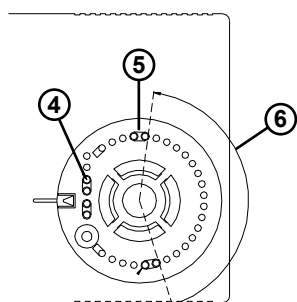

Fig. 6
First, remove the dial by inserting a small screwdriver into the hole (2) and gently prying the dial off. Lift the plastic pegs (4) located on the left side of the dial area and place them (5) as shown in Figure 6. In this example, the rotation range (6) is limited to the angle shown in the figure.